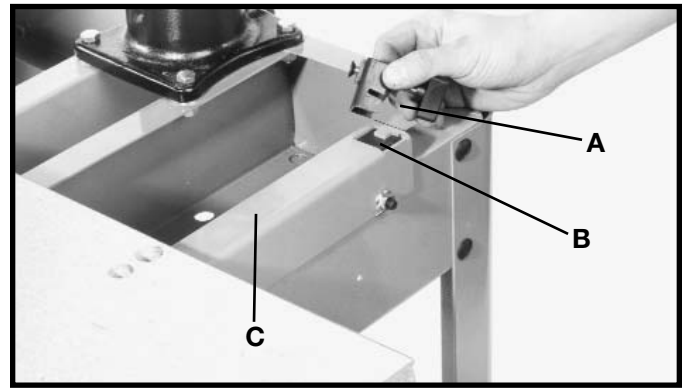
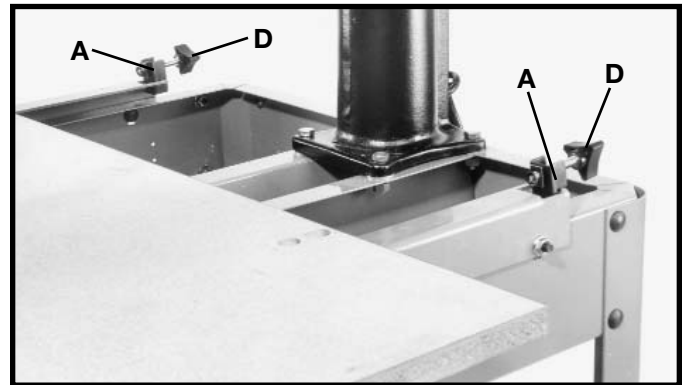

Fig. 29
Fig. 30
1. Locate table board clamps (A) Fig. 29, and insert one clamp into each of the slotted holes (B) located at the rear of each table support bracket (C) as shown in Fig. 30.
2. Turn adjusting screw (D) Fig. 30 counter clockwise, so that the knobs (A) are in the rear position as shown.